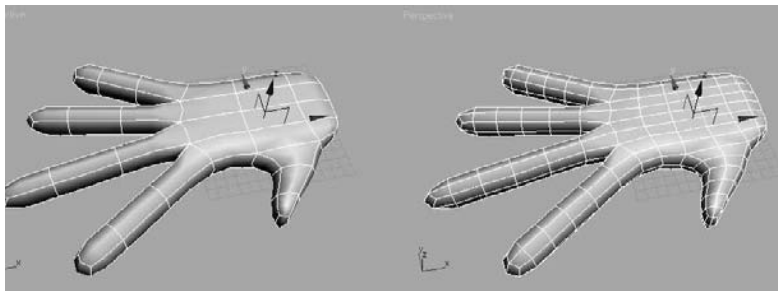

Figure 4.84
4. Uncheck **Isoline Display** in the Subdivision Surface rollout. When Isoline Display is off, 3ds Max displays all the faces added by the smoothing, as shown on the right in Figure 4.84. The default setting of On shows only the object's original edges, as shown on the left in Figure 4.84.